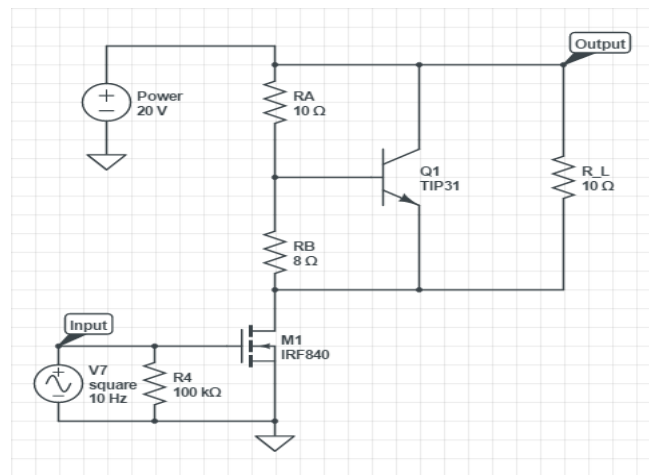

Figure 2: Final design of the shunt driver circuit
For word descriptions: Use paragraph form, proper syntax, proper punctuation, and complete sentences. Be as specific as possible – avoid frequent use of pronouns like it, its, their, and other pronouns that can cause confusion when reading. Define any acronyms that you use before using them in the rest of the report. For example, this report will discuss the signal-to-noise ratio (SNR) at several points, and the SNR will be important in communications class. All tables, equations, and figures must be referenced within the text of the word descriptions. Equations should be referred to by number, i.e. the formula for the time constant of the circuit is given in Equation (1) – also acceptable is saying the formula is given in (1). Figures should be referred to as Fig. # -- for example, Fig. 2 shows the basic circuit configuration used. Tables should be referred to by name – for example, the different design choices are shown in Table 2.